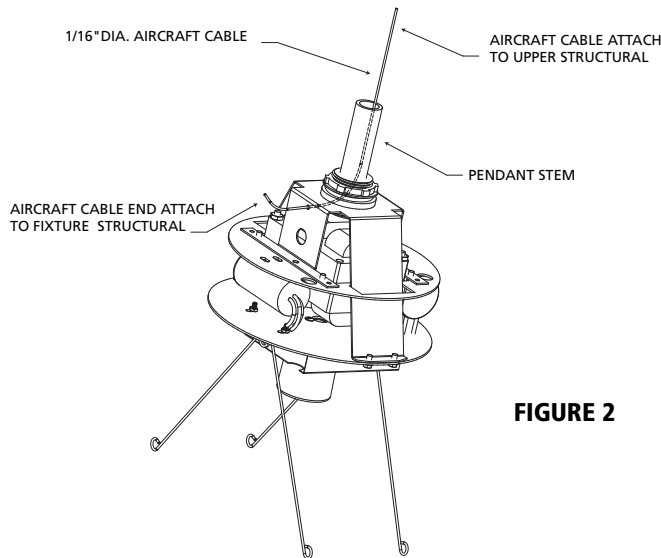

FIGURE 2
A 1/16" diameter aircraft cable (not included) is recommended for attaching the fixture structural to the upper structural. See figure 2.
4. Install safety aircraft cable per Figure 2.
5. Install safety aircraft cable per Figure 2.